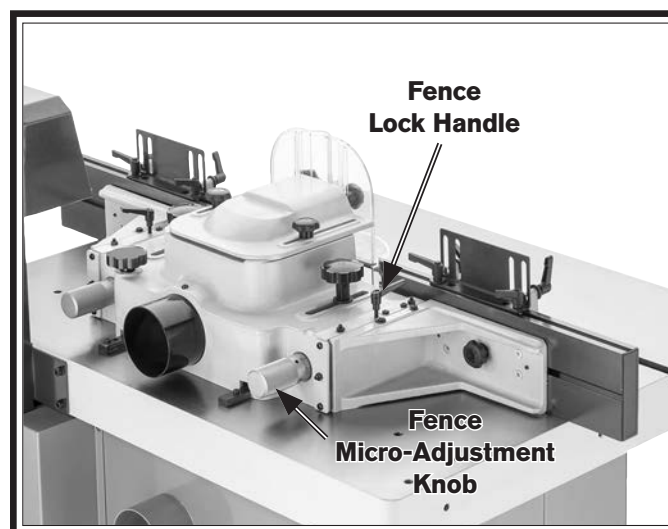

Figure 86. Fence adjustment components.
2. Unlock both fence lock handles and turn micro-adjustment knobs fully counterclockwise (see **Figure 86**).